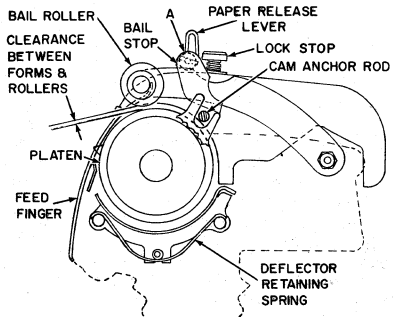

Figure 5
3. Adjust the bail stops (Figure 5) by means of their eccentrics so there is clearance between the bail rollers and forms installed in the machine. Be sure that the bail rollers rest on the platen when the bail stops are not positioned on the cam anchor rod.